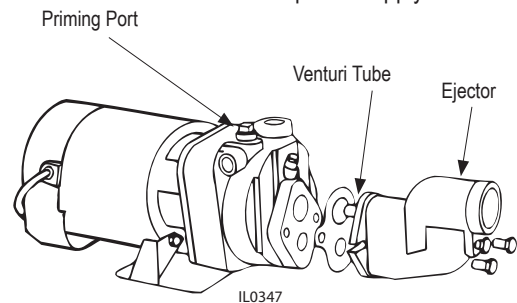

Figure 1
1. Attach ejector to face of pump with two (2) bolts and gasket provided. Venturi tube on the ejector inserts in the top tapping of the face of the pump (Figure 1).